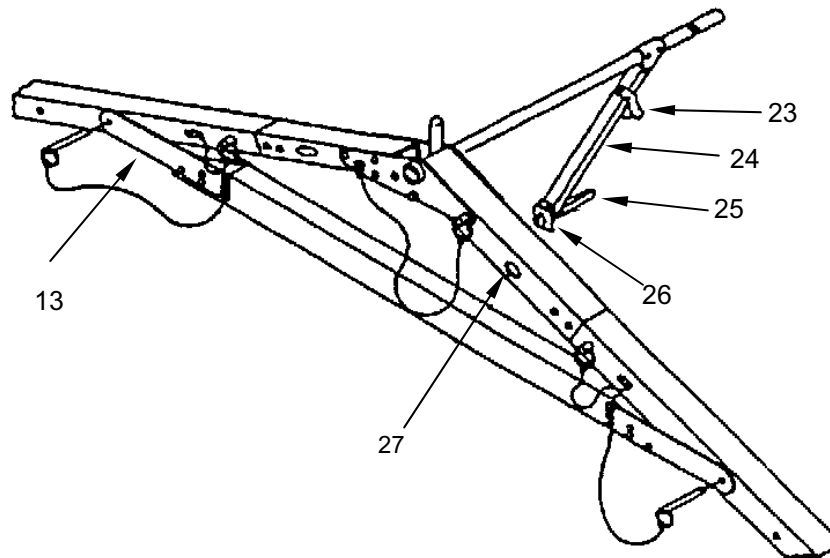

Figure 9. Purlin Assembly Diagonal Brace Detail.
7. Unfasten retaining strap (**Figure 9, Item 23**) and rotate a purlin diagonal brace (**Figure 9, Item 24**) toward arch assembly (**Figure 9, Item 13**).
8. Holding brace shackle (**Figure 9, Item 25**), align and place brace stud (**Figure 9, Item 26**) in arch assembly slot (**Figure 9, Item 27**) located two feet from ridge.
9. Rotate brace shackle (**Figure 9, Item 25**) 90° to lock brace stud (**Figure 9, Item 26**) in place.